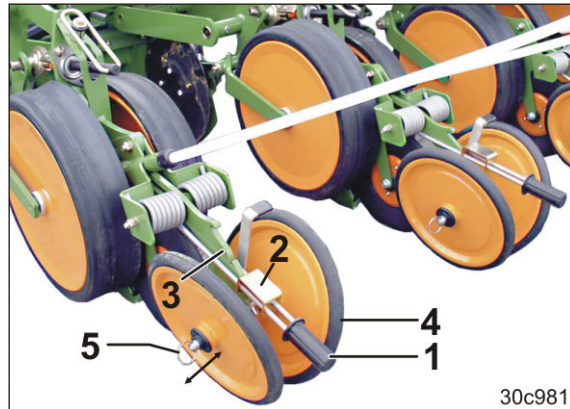

Fig. 169
1. Lift up the lever (Fig. 169/1) briefly and locate the tab (Fig. 169/2) in the toothed segment (Fig. 169/3).
2. Make the same axial adjustment at each of the press rollers (Fig. 169/4) and secure (circlip, Fig. 169/5).